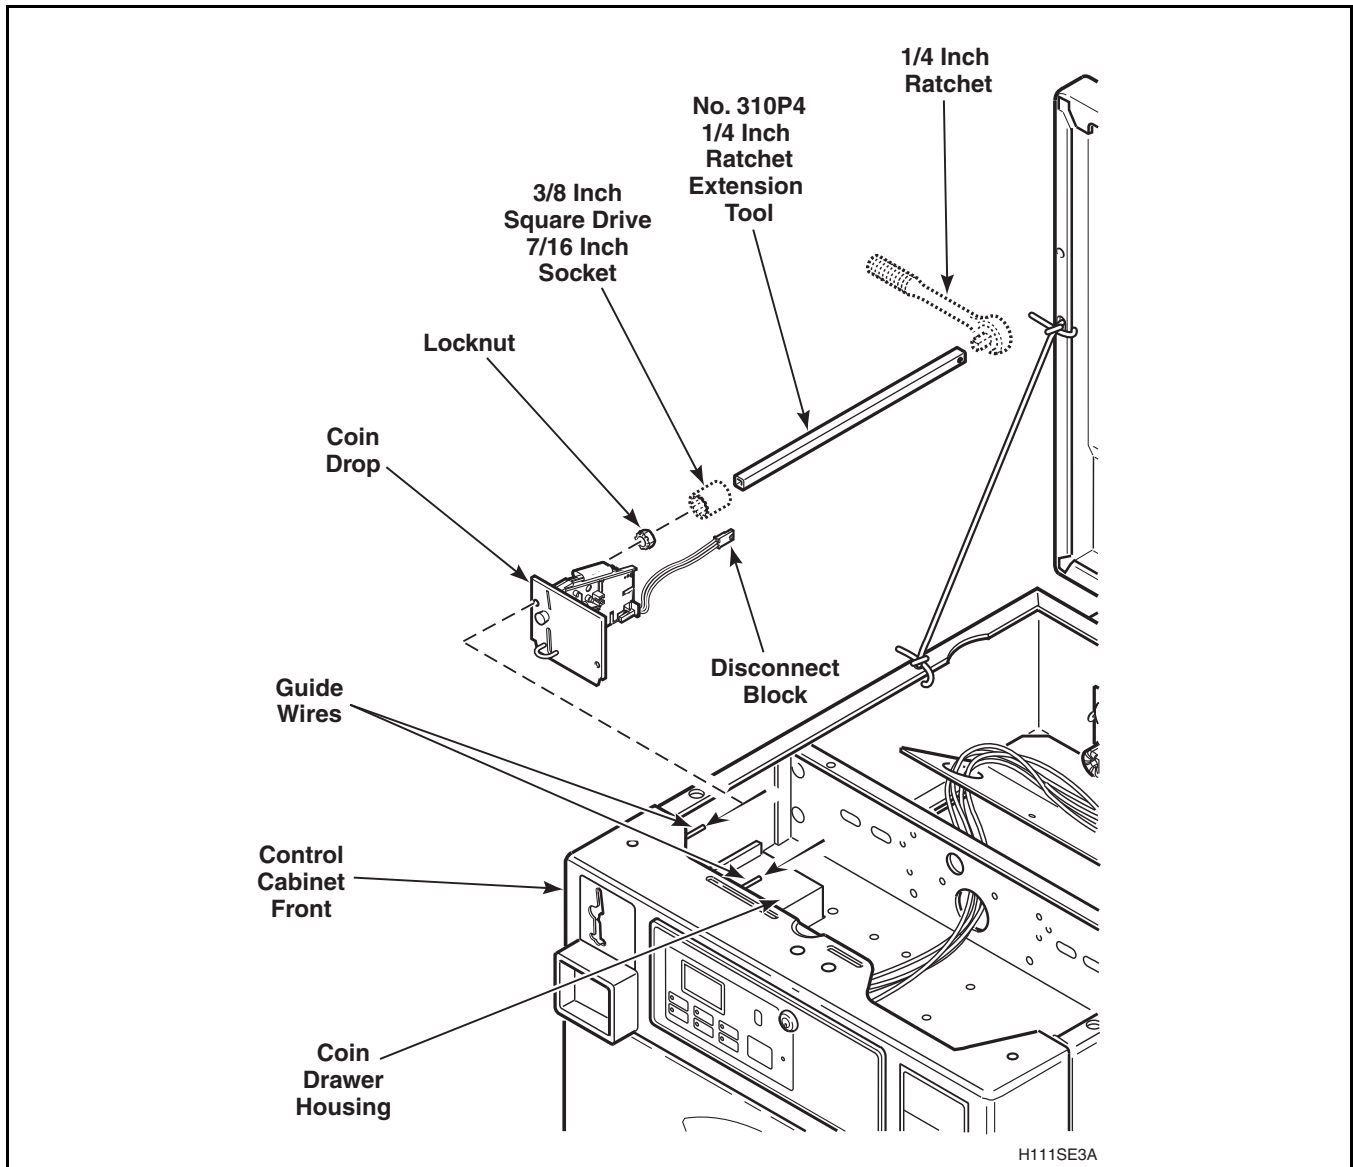

Figure 33
- (6) Disconnect coin drop harness at disconnect block.
- (7) Use a 3/8 inch square drive socket, with number 310P4—quarter inch Ratchet Extension Tool, to remove two locknuts holding coin drop to front of control cabinet.
**NOTE: A 3/8 inch square drive socket, size 7/16 inch, fits over end of the 310P4 Extension Tool. A 1/4 inch ratchet fits in the other end. Refer to *Figure 33*.**
- (8) Lift back end of coin drop and pull drop straight back until front edge of the drop's front face plate clears the two guide wires.
- (9) Carefully slide drop straight back until drop clears inside wall of control cabinet. Carefully remove drop out through top of control cabinet.